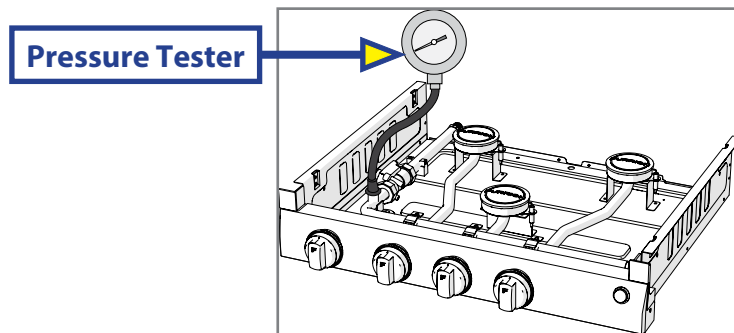

Fig. 2
5. The pressure gauge tester should measure between 10" WC to 13.8" WC. (Fig. 2)